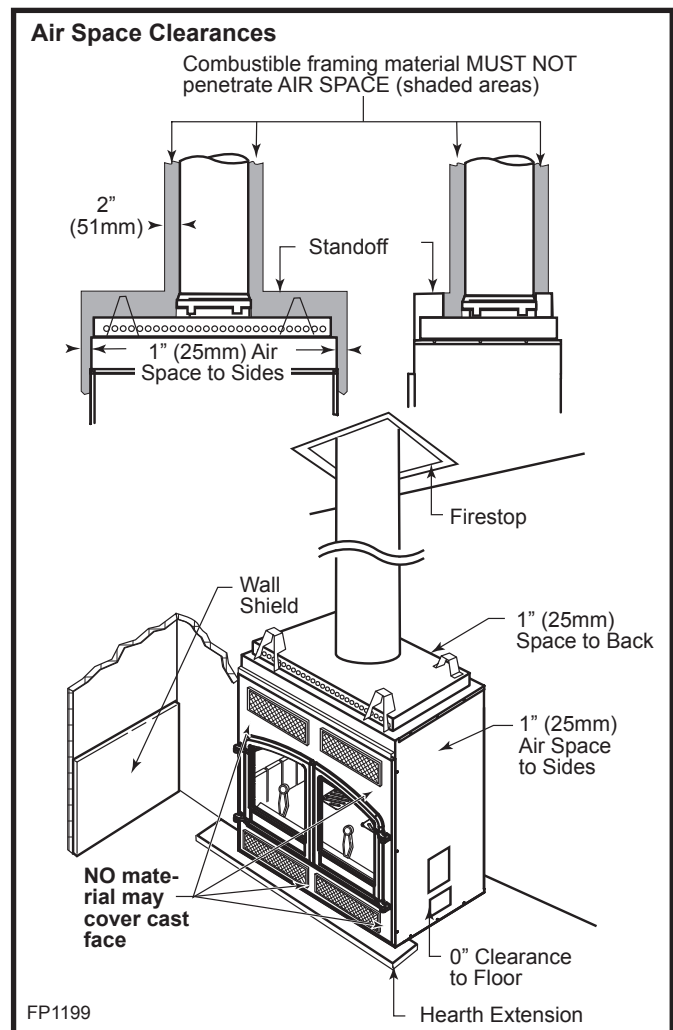
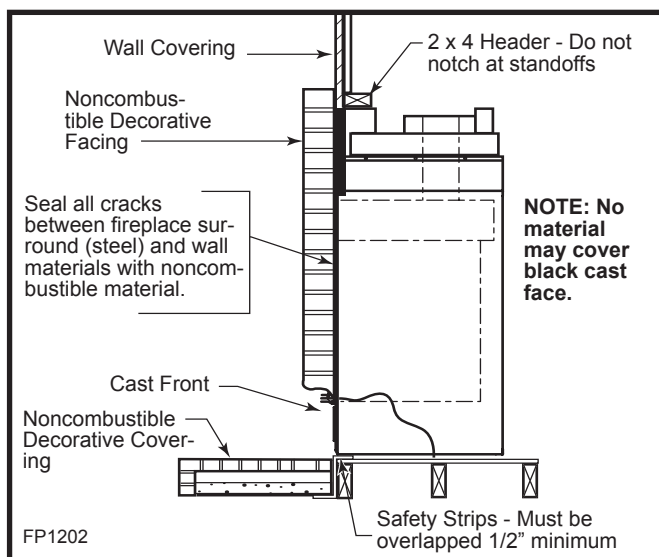

Fig. 20 Minimum clearances to combustibles.
Fig. 25 Sealing gaps.
CAUTION: All joints between the finished wall and the fireplace surround (steel front) must be sealed with noncombustible material to prevent cold air leakage into the room. (Fig. 20)
Finish the wall with material of your choice. **Do not install a combustible mantel shelf less than 12" (305 mm) above the firebox grille opening. Do not install a mantel face plate less than 6" (159 mm) from top of grille opening. (Fig. 20)** If a combustible material is used below a flat mantel shelf, consult your local building codes for minimum clearance from top of fireplace opening to bottom of mantel shelf.
Adjacent combustible side walls that are within minimum dimensions shown in Figure 25 of the fireplace opening must be protected with CFM Corporation Wall Shield Model SP40 or a specifically built wall shield described in Figure 20.
The special wall shield design described in Figure 20 is an alternate method of adding protection to side walls and can be used in place of the SP40 with the same wall clearances specified for the SP40. Rt must = 1.85 minimum.
Secure the hearth extension to the floor to prevent shifting, using trim molding or other similar means at three (3) outer edges. Seal crack between the fireplace hearth and hearth extension with a noncombustible material. (Figs. 25 and 26)
WARNING: Hearth extension must be installed in accordance with Figure 25. Top of hearth extension must be level with bottom of fireplace.